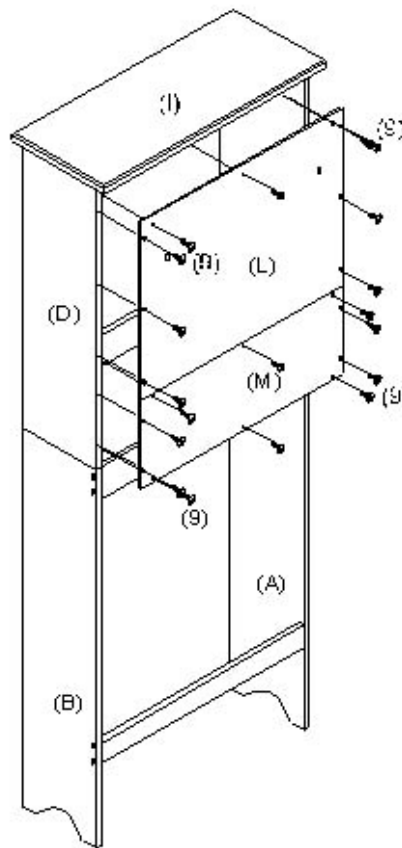
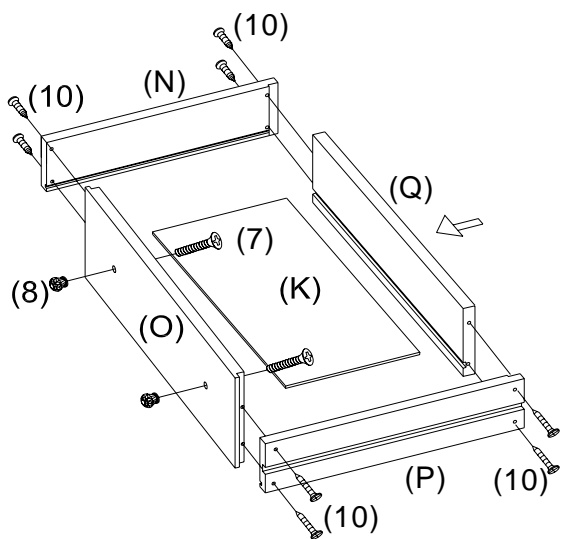

FIGURE 6
FIGURE 7
9. INSERT PAN HEAD WOOD SCREWS ( $\text{Ø}2.6\times10\text{mm}$ ) (9) THROUGH PREDRILLED HOLES ON UPPER AND LOWER BACK PANELS (L, M) AND TIGHTEN INTO CORRESPONDING HOLES ON REAR EDGES OF PARTS (I, G, D, F, H). (AS SHOWN IN FIGURE 6)
10. INSERT MACHINE SCREW ( $\text{Ø}5/32''\times3/4''$ ) (7) THROUGH BACK OF DRAWER FRONT PANEL (O) AND TIGHTEN INTO KNOBS (8). INSERT SMALL FLAT HEAD WOOD SCREWS ( $\text{Ø}3\times18\text{mm}$ ) (10) THROUGH PREDRILLED HOLES ON OUTSIDE OF DRAWER RIGHT PANEL (P) AND TIGHTEN INTO PREDRILLED HOLES ON ENDS OF DRAWER FRONT PANEL (O) AND DRAWER BACK PANEL (Q). SLIDE DRAWER BOTTOM PANEL (K) INTO GROOVES ON DRAWER FRONT PANEL (O) AND
DRAWER BACK PANEL (Q) AND ALIGN WITH GROOVE ON DRAWER RIGHT PANEL (P). ASSEMBLE DRAWER LEFT PANEL (N) IN SAME MANNER. (AS SHOWN IN FIGURE 7)